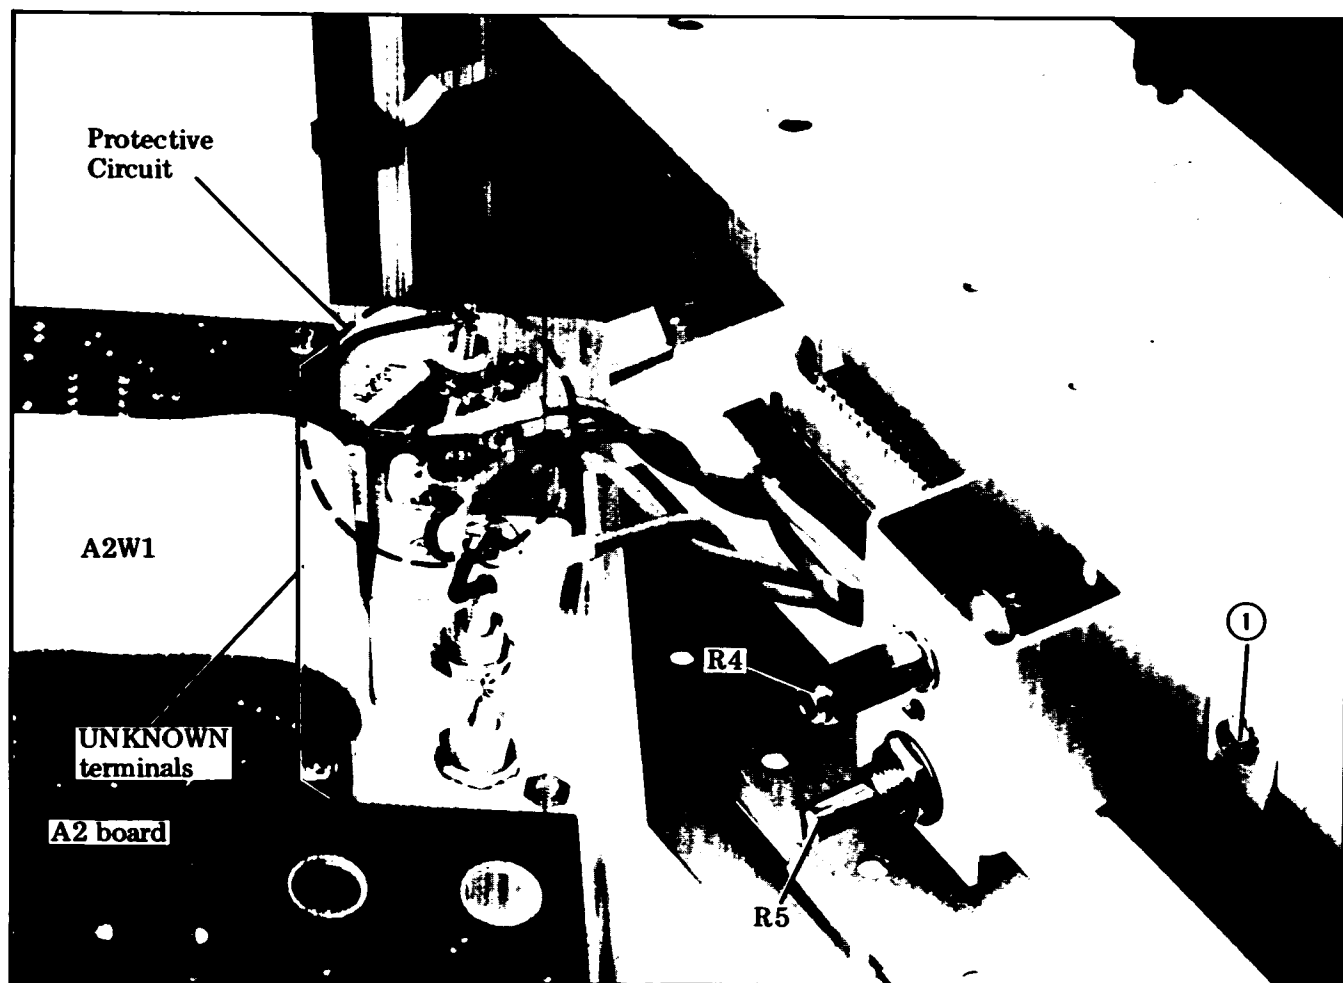

Figure 8-13. Protective Diode and ZERO ADJ Control Potentiometer Replacement.
- b. Remove retaining screw (1) shown in Figure 8-13.